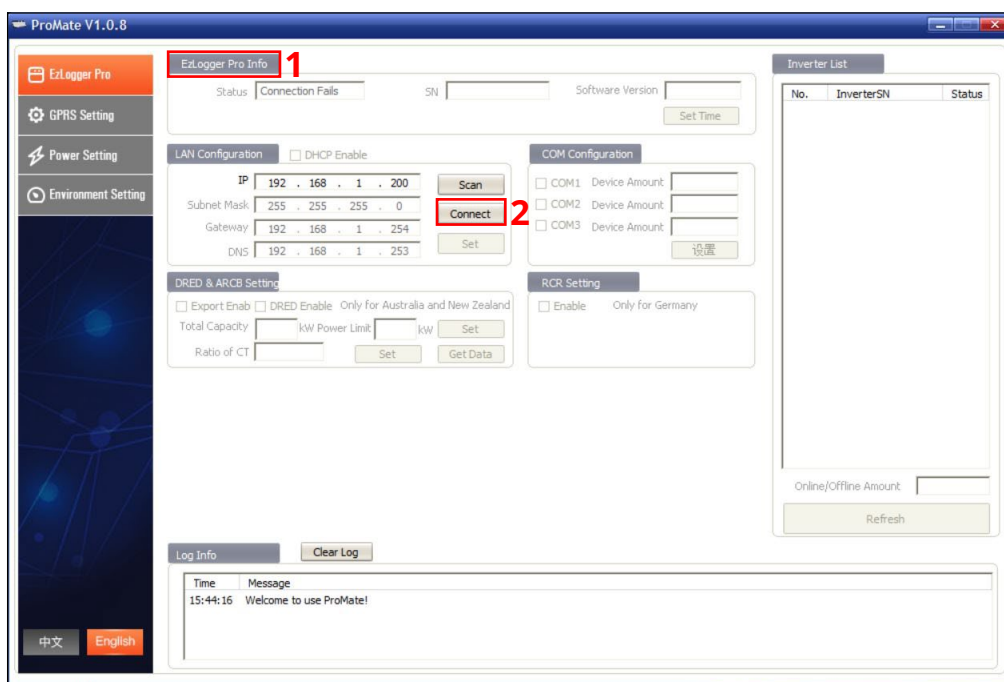

Figure 2: EzLogger Pro User Interface ProMate
Step 1 and 2 : Click the “Connect” button in the “LAN Configuration” section of the “EzLogger Pro” menu as shown in Figure 2.